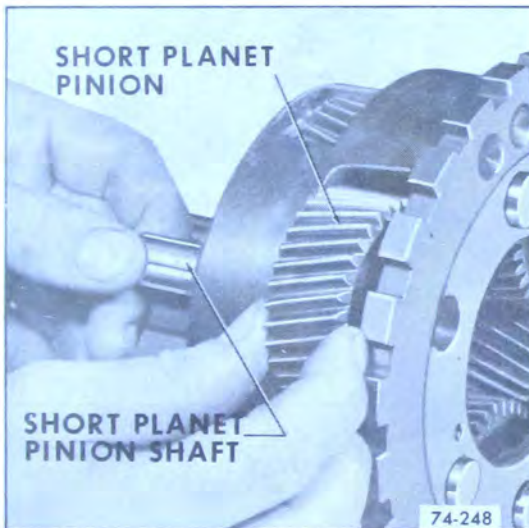

Figure 74-248
4. Remove pinion shaft and pinion gear from planet carrier. See Figure 74-248.
5. Remove needle bearings, and thrust washers (2) from the short